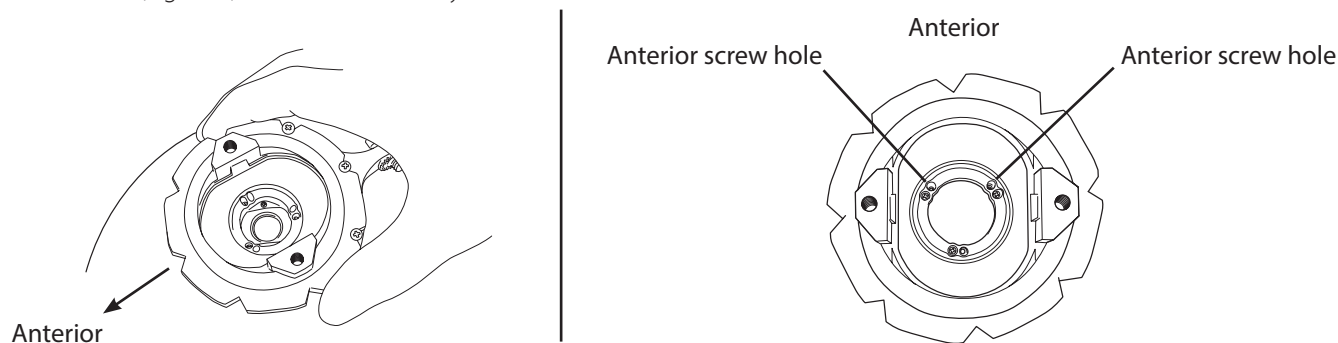

Figure 8. Place the ring over the Stimloc base with the two screw holes opposite the reference frame bracket facing anterior.
4. Position the center hole of the Nexframe ring over the Stimloc base with the two screw holes placed towards the patient anterior (Figure 8) to maximize stability.